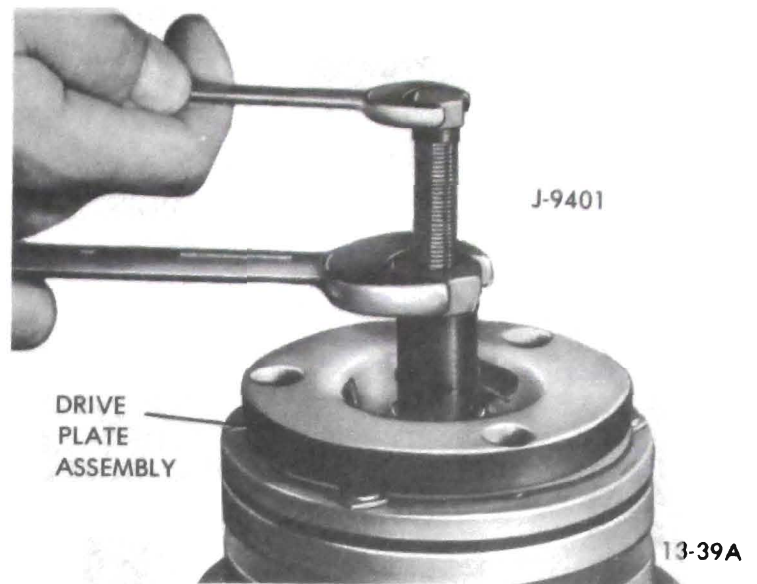

Figure 13-24 Removing Clutch Drive Plate
3. Install threaded hub puller (J-9401) onto hub of clutch drive plate (see Figure 13-24). Hold body of hub puller with wrench, tighten center screw of hub puller, and lift off clutch drive plate and woodruff key.